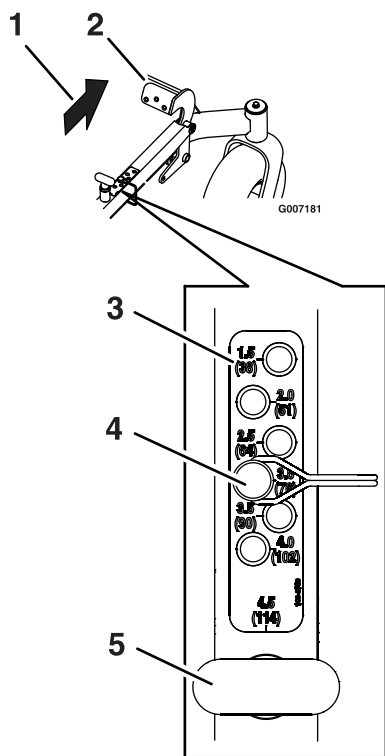

Figure 16
1. Raise the deck to the transport position (4.5 inch (114 mm) cut height) by pushing the foot actuated lever forward (Figure 16). The spring loaded transport pin will automatically engage and will click into place.